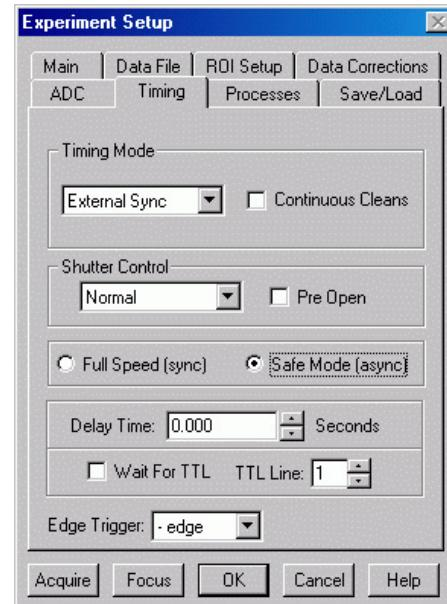

Figure 42. Timing tab page
3. On the **Timing** tab page (Figure 42) set the following parameters.